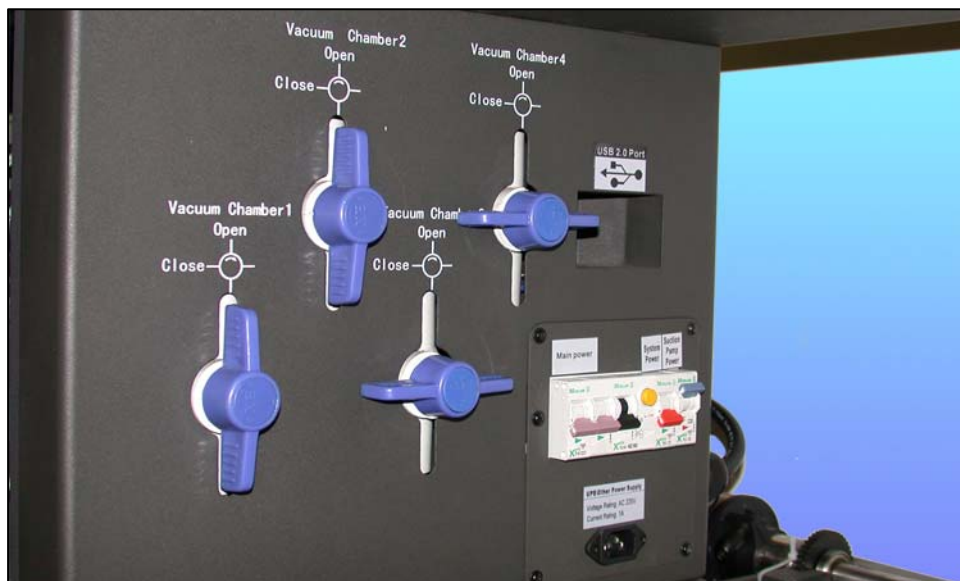

Figure 30 **Adjusting the Vacuum Belt Suction Width**
- 8 If you have not done so, turn on the suction pump to hold the media in place. See **Figure 30** (above). Neglecting to turn on the suction pump will adversely affect the print quality.